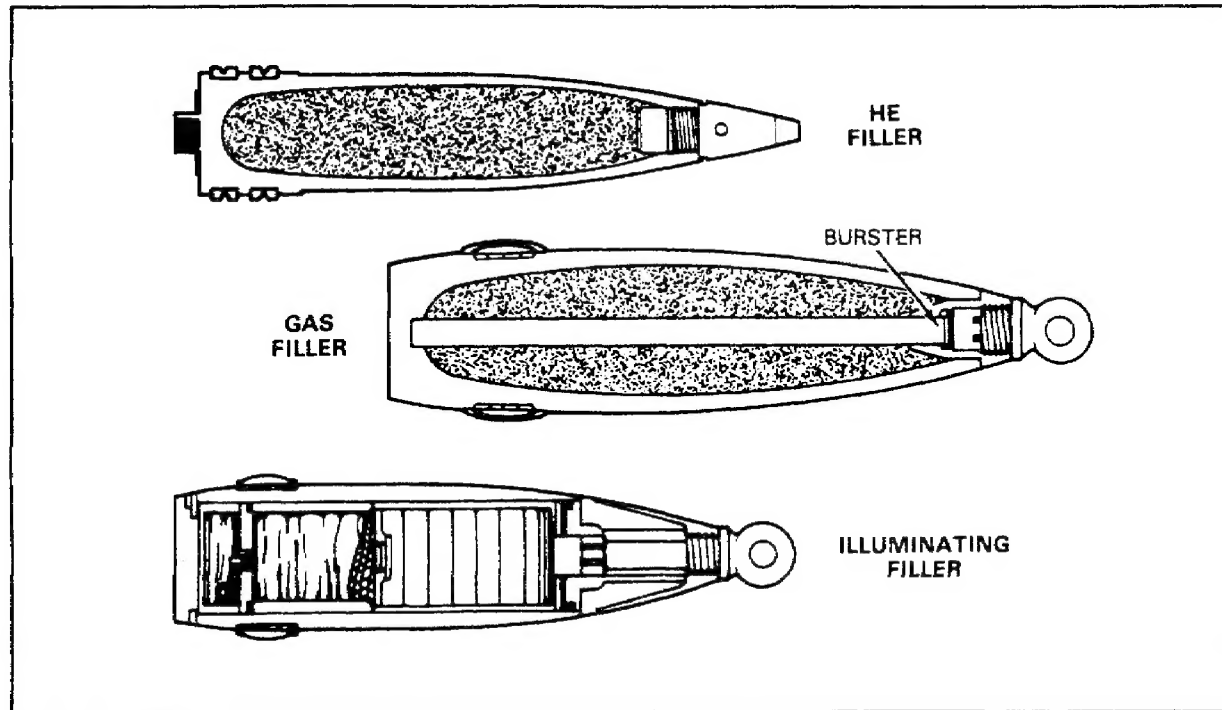

Figure 8. Examples of Artillery Service Ammunition.
**Service Ammunition.** Service ammunition (Figure 8) is used for combat and live-fire training. Service ammunition can be further classified as: high-explosive (HE), antipersonnel (apers), high-explosive rocket-assisted (HERA), high-explosive antitank (HEAT), armor-piercing (AP), armor-piercing discarding sabot (APDS), chemical (smoke or gas), illuminating (parachute flare, base-ejected), or leaflet (countermeasure). The type of service ammunition is identified by color code and markings. Ammunition of uncertain identity will not be issued.